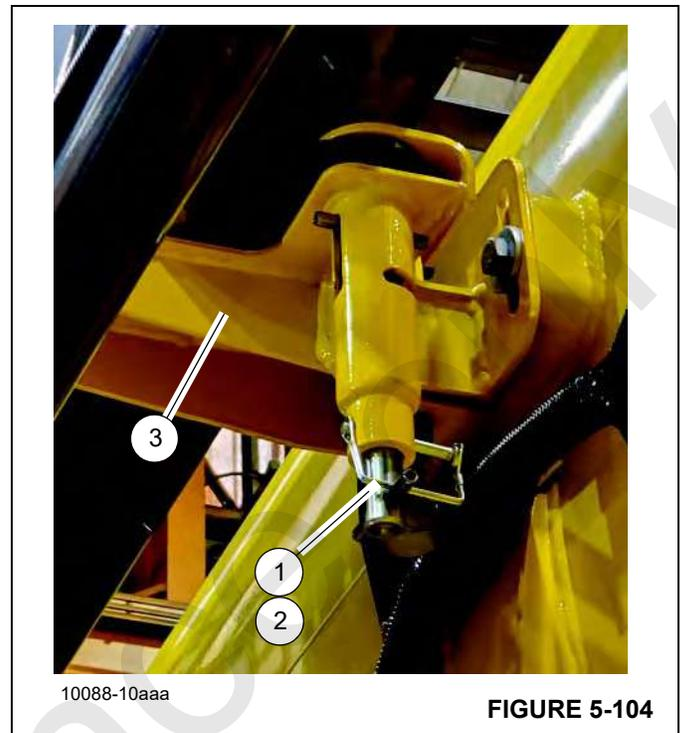

FIGURE 5-104
- a. Remove retaining clip (1), (Figure 5-104) from pin (2) at fly section stowage bracket (3).
- b. Turn pin (2) clockwise, allowing the spring-action pin to lock into the fly section.
- c. Reinstall the retaining clip (1) into the pin (2).